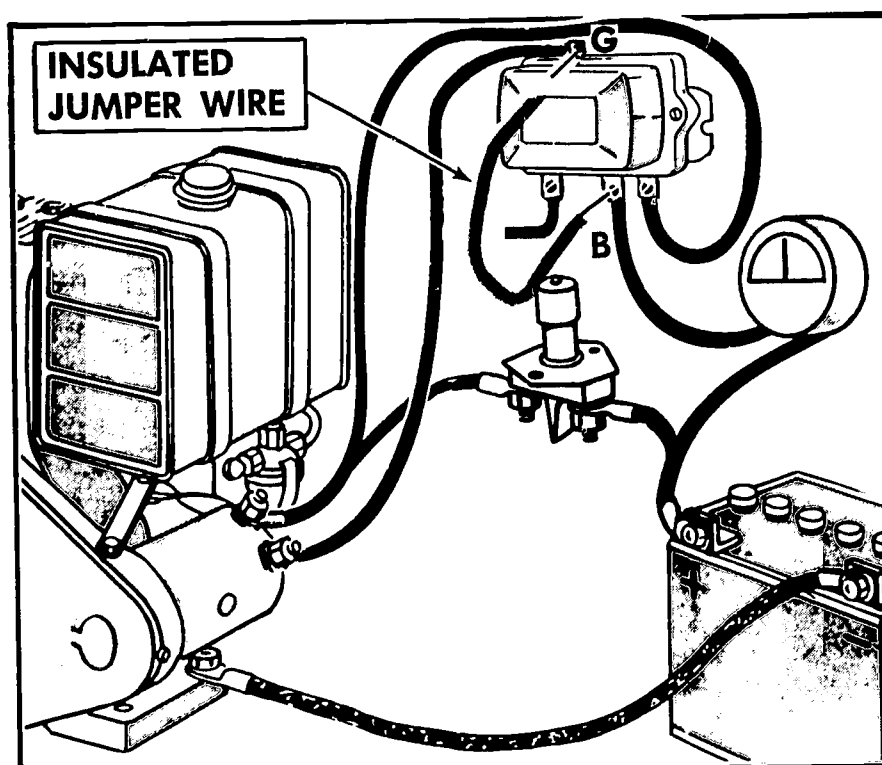

FIGURE 71. To polarize the generator, touch a short jumper wire to the "BAT" and "GEN" (or "ARM") posts of the regulator momentarily.
14. *Polarize the generator before starting the engine (Figure 71).*